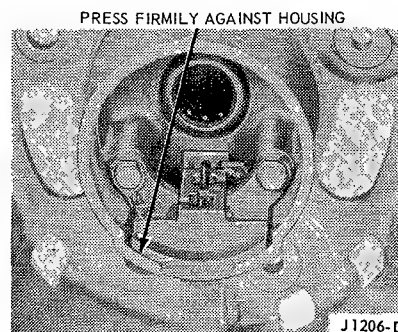

FIG. 15 Brush Lead Positions
8. Position the brush holder assembly in the rear housing and install the mounting screws. Position the brush leads in the brush holder as shown in Figure 15.